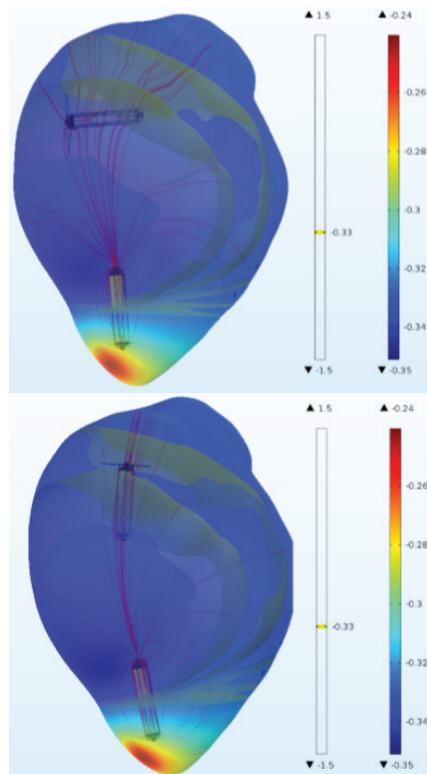
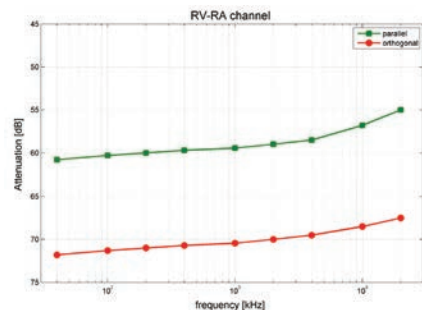

FIGURE 4 RA capsule positions for worst-case (top) and best-case (bottom) scenarios.
FIGURE 5 Attenuation levels of the intracardiac channel for both scenarios.
calculate the channel attenuation in a frequency range between 40 kHz and 20 MHz. The results in Figure 4 show the positions of the right atrium (RA) capsule of the worst-case scenario (perpendicular) and the best-case scenario (parallel). The best-case scenario shows a higher differential voltage across the receiving dipole. The attenuation levels of both scenarios can be seen in Figure 5, where the difference is ~11 dB. From 40 kHz to 20 MHz, the attenuation decreases by ~5 dB for both cases. From the results, Maldari and his team were able to verify that relative position and orientation of the capsules strongly impacts the channel attenuation.